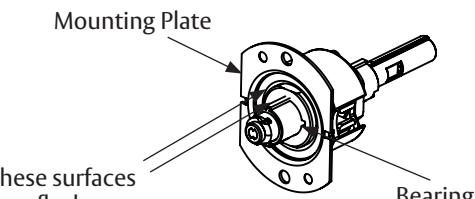

Figure 5-5C
- For 2" thick door the inside face of the mounting plate should be flush with the face of the bearing. (Figure 5-5C)